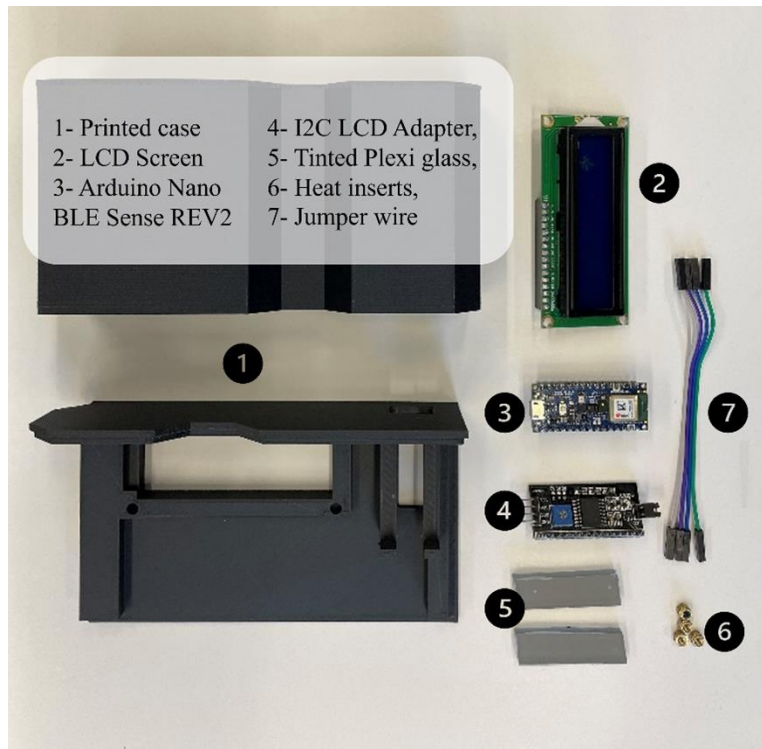

Figure 1.2- Gathered components.
1) Gather the parts as shown or see bill of materials as shown in Figure 1.2.